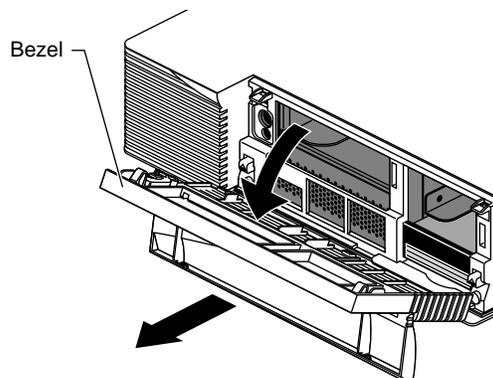

Figure 2-4 Removing the Bezel
3. Pull the bezel down and away from the chassis (Figure 2-4).